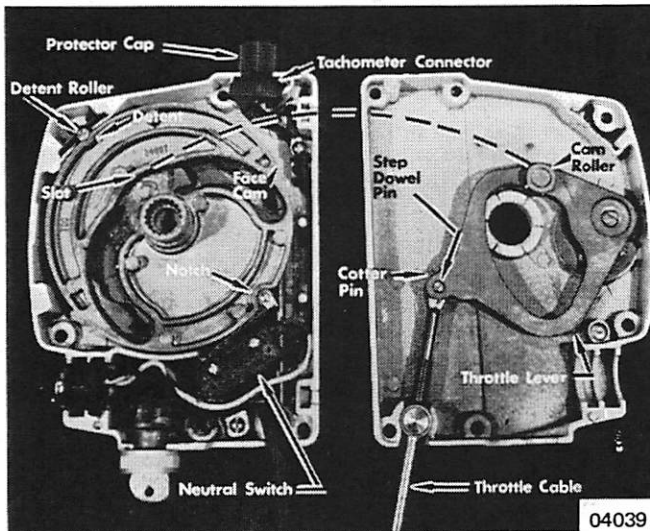

Figure 1. Control Station Halves (Electric Model)
2. Remove detent springs and detent roller from left side housing. (Figure 1)
3. On 6-cylinder models and 4-cylinder electric models only, remove 2 screws which secure neutral safety switch to left side housing and move neutral safety switch out of position. (Figure 1)